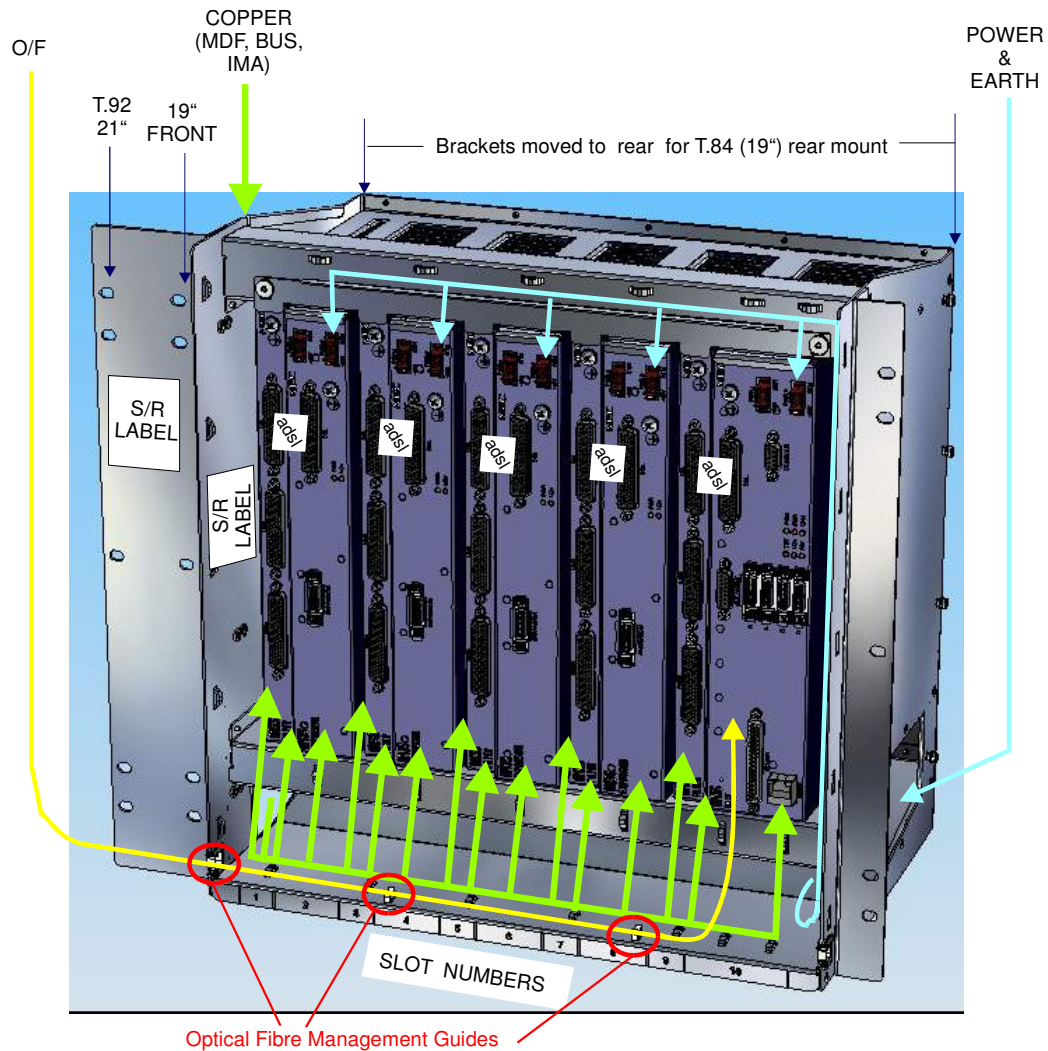

Figure A2.12 –AM 35 Exchange Sub-Rack Installation Configuration
The physical height within the rack for a full complete sub-rack is approximately 445mm (10RU). Refer to Figure A2.12 for the installation configuration of the AM 35 sub-rack.
- **Optical Fibre installation** – Refer to Sections 4.1, 4.2, Figure A2.12 and the Single Fibre Working Standard, 007332 – A086.
Labelling is attached to the LHS, top, front or inside of the sub-rack flange – refer to Figure A2.12. Refer to main document, Section 4.1.1 and 4.10.2, for required details.